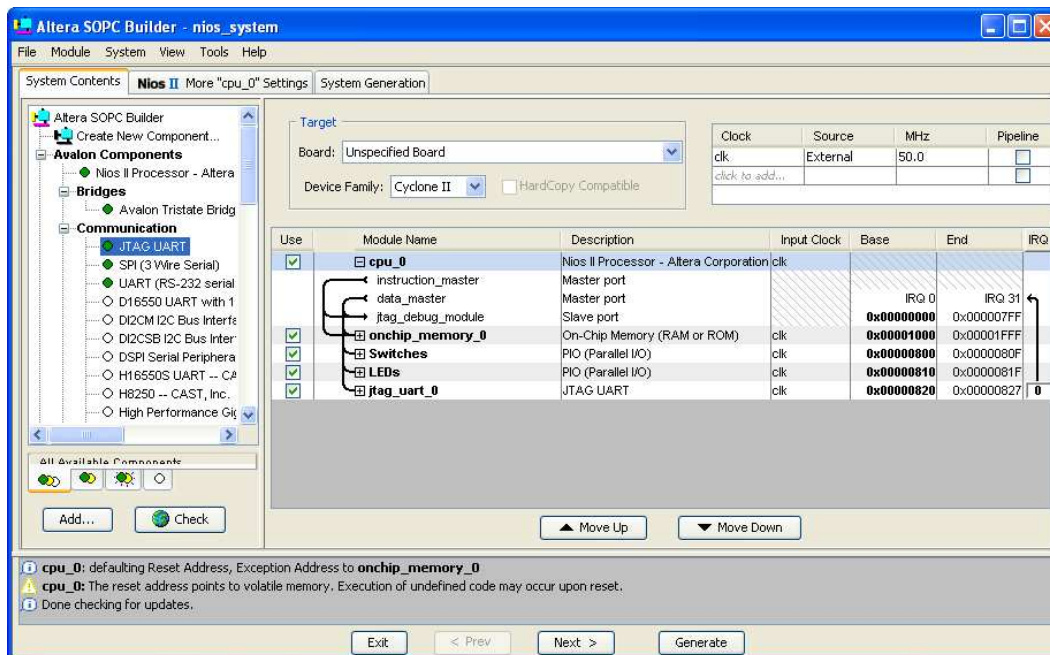

Figure 13. The complete system.
10. The complete system is depicted in Figure 13. Note that the SOPC Builder automatically chooses names for the various components. The names are not necessarily descriptive enough to be easily associated with the target design, but they can be changed. In Figure 2, we use the names Switches and LEDs for the parallel input and output interfaces, respectively. These names can be used in the implemented system. Right-click on the `pio_0` name and then select **Rename**. Change the name to Switches. Similarly, change `pio_1` to LEDs.